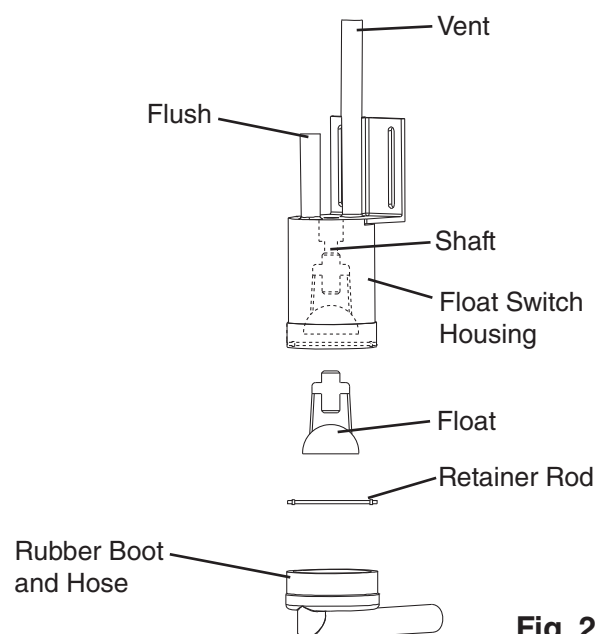

Fig. 2
- 5) Disconnect the vent tube and the flush tube from the top of the float switch, then remove the float switch assembly from the mounting bracket and remove the rubber boot from the bottom of the float switch assembly. See Fig. 2.